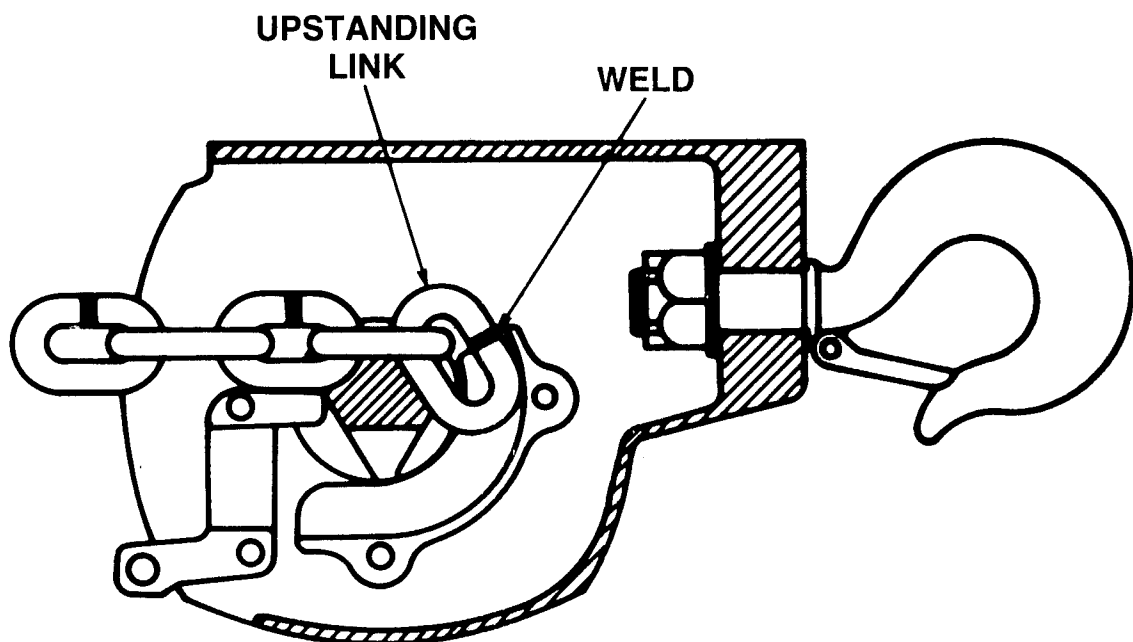

FIGURE 5-2 CHAIN REPLACEMENT
b. Invert the hoist housing on a work table. Drop loose end of the load chain into the side of the Load Sheave facing the hoist cover. The first link of the chain should be upstanding in the load sheave groove, so that the weld on the link faces away from the Load Sheave (see Figure 5-2). The second link of the chain should ride in one of the load sheave pockets. Turn the Hand Chain Wheel to rotate sheave. As the end of the chain moves around the sheave, turn the hoist housing upright so the chain will be guided through the shedder clearance hole. Attach the first link to the dead-end lug of the Shedder, using the Dead End Pin. **DO NOT TWIST CHAIN!**